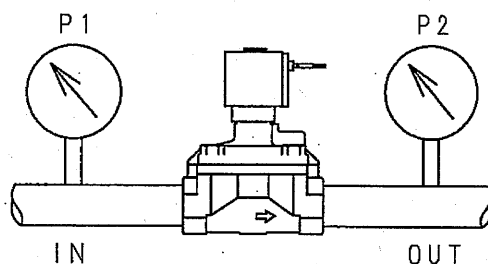

Fig. 13
- (1) Use this solenoid valve for industrial water. Avoid using with agricultural water, contaminated water, sea water or water containing foreign matter, etc.
- (2) Always stay within the specified range for the temperature of the ambient air and the water that passes through the valve.
- (3) Use within the specified pressure range. Note that the inlet and outlet valve pressure difference must be 0.03MPa when the valve is open. (Refer to Fig. 13.)